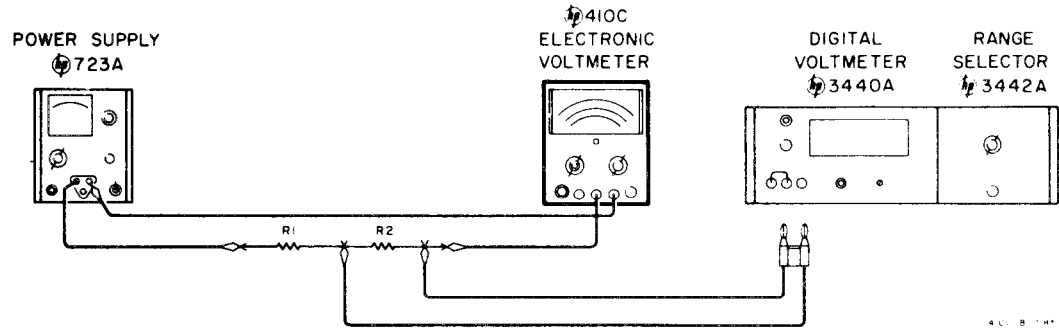

Figure 5-2. DC Ammeter Operation
a. Figure 5-2 describes the test arrangement required for this operation. The following additional equipment will also be required:
b. Connect the Model 410C as shown in Figure 5-2; FUNCTION SELECTOR to +DCA; RANGE to 150 MA.
a. Figure 5-2 describes the test arrangement required for this operation. Replace R1 and R2 with a 10 ohm ±1% resistor (Part No. 0727-0335).